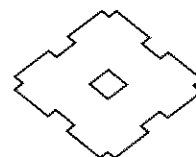

Fig. 11
9. Put the slow speed shaft pins into the rollers (Fig. 11). The above instructions are for eccentric bearings with retainer. Following are the instructions suggested for roller bearings without retainer.